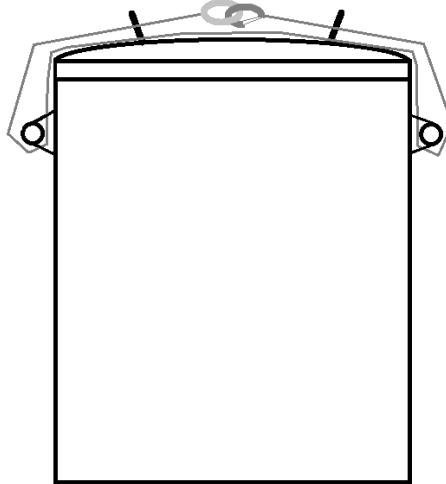

Figure 12: Safety Cable Installation
- Loop the safety cable through both lid handles and through the handles on both sides of the vessel and then back through the lid handles so the two ends meet then secure the two ends together (See Figure 12)